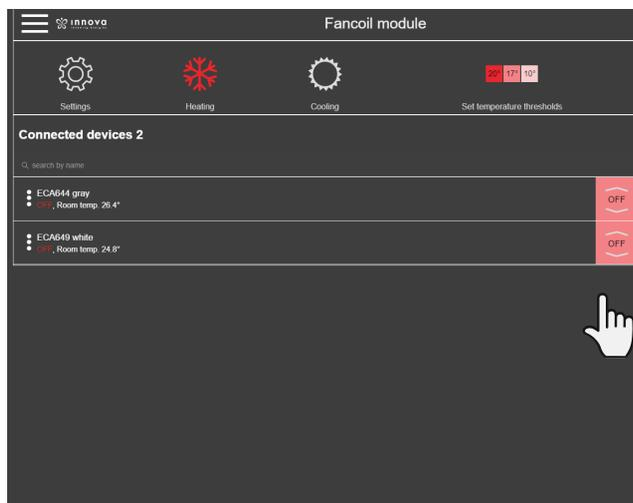

Figure 8.21
- On the main fancoils screen, select the tile setpoint (Figure 8.21)